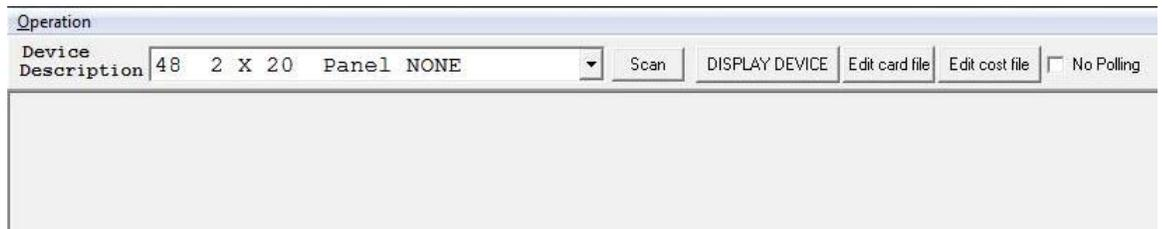

Figure 2-6. Host OrPT Main Screen
- b. Run the Host OrPT application. The following screen is displayed (see Figure 2-6):